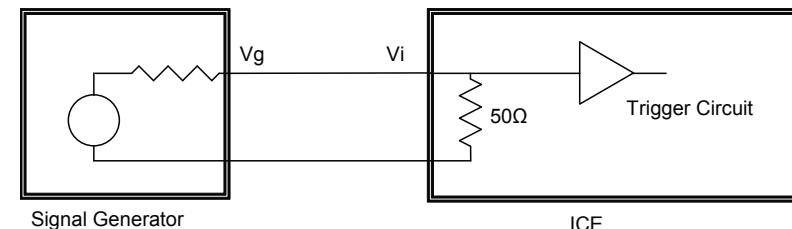

Figure 29 Signal Generator to Trigger Circuit
- The signal generator must be set up to drive the ICE 50 Ω input. Figure 29 shows a signal generator driving the external trigger input of the ICE.